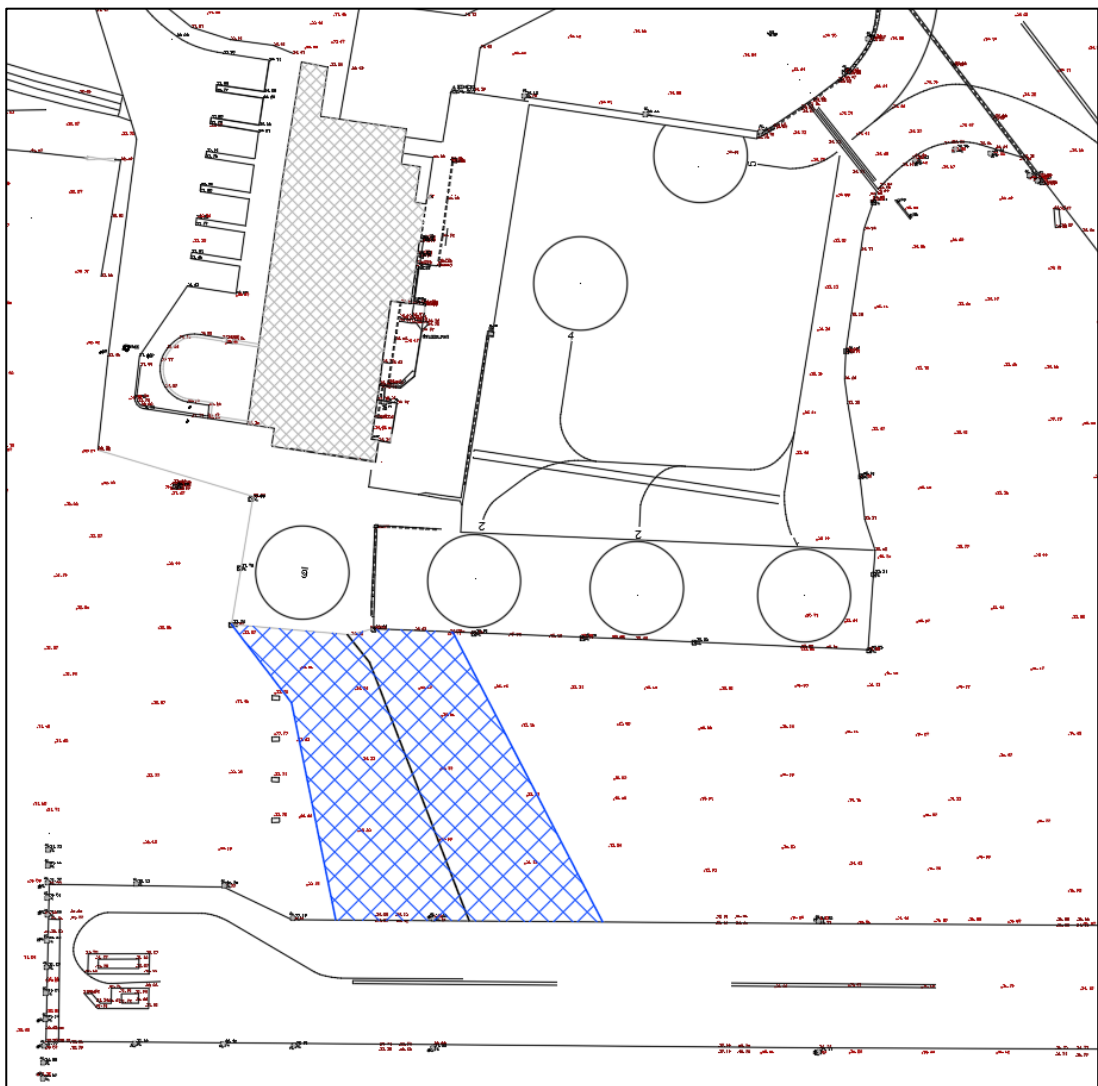
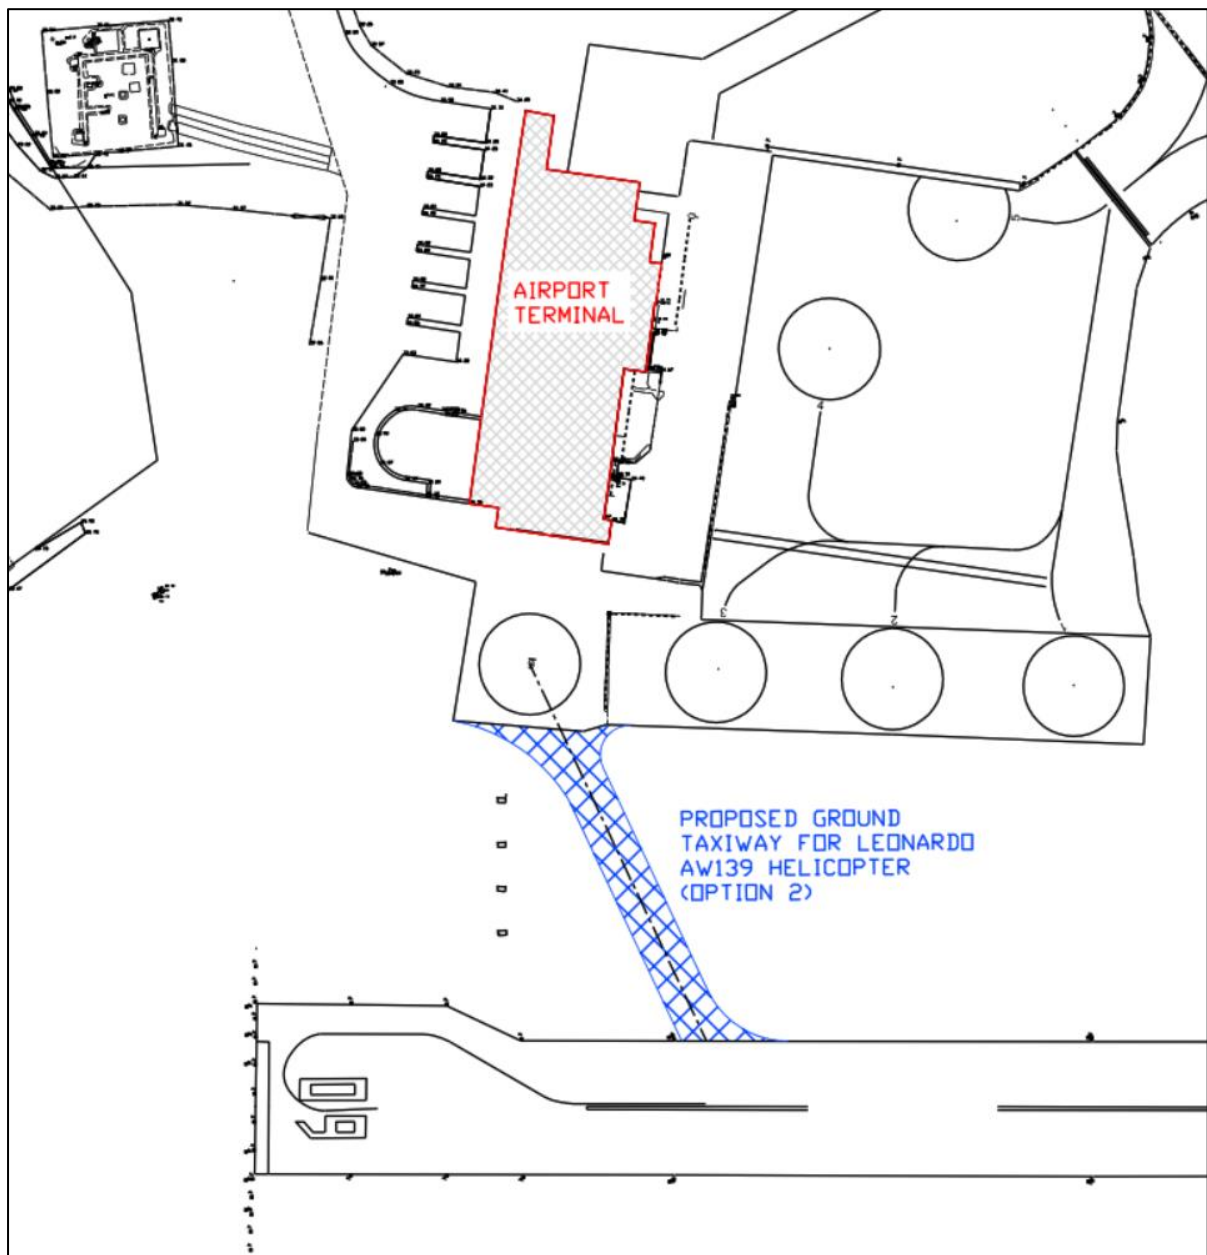

Figure 1: Option 1 - Proposed extent of new ground taxiway (blue hatch) based on client drawing "STM Stand 6 AW139"
Figure 2: Option 2 - Proposed extent of new ground taxiway based on "ICAO Annex 14 Volume II Heliport"
- Description: The airport requires a new ground taxiway from runway 09 to the apron alongside the terminal to accommodate the following helicopter, Leonardo AW139. Figure 1 shows the extent of the proposed ground taxiway Option 1 and Figure 2 shows Option 2.